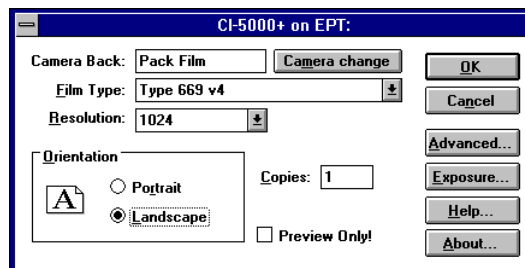

Figure 2-54. CI-5000 Setup Dialog Box
4. Wait for the CI-5000+ setup dialog box (Figure 2-54) to appear.